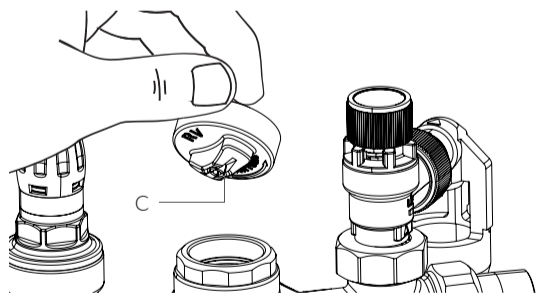

Fig. 6
To **replace the RV**, turn the handle (A) clockwise until it stops and remove the cap (C) on the opposite side [Fig. 6].